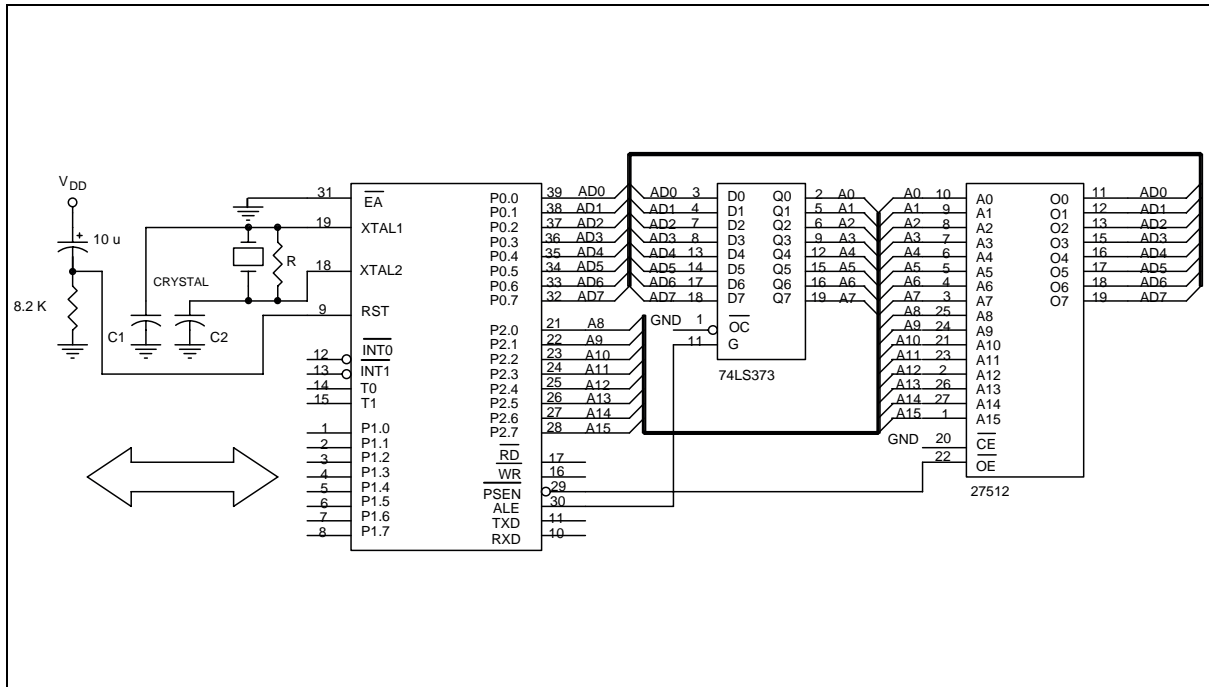

Figure 21-1
1. For C1, C2 and R components, see Figure 21-1